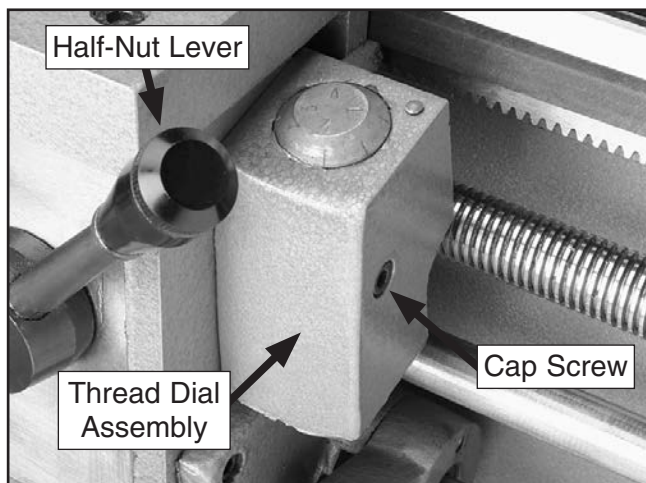

Figure 107. Thread dial and cap screw.
2. Unscrew the cap screw shown in **Figure 107** and remove the thread dial assembly.